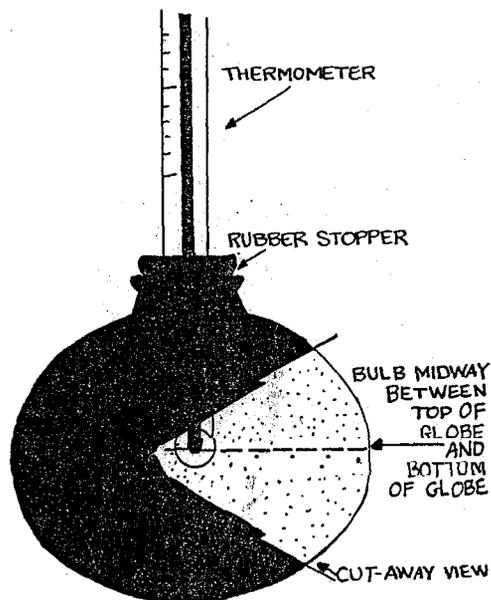

Figure 4. --The Globe Thermometer.
f. See figure 4 of this enclosure.